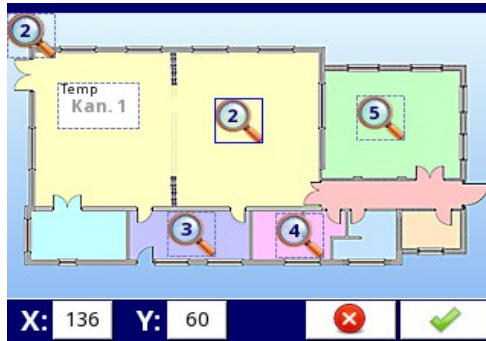

Fig. 7.146. Example of the screen view during configuring **SCADALite** display mode
- **Set position** – this button refers to a simulated view of a group that shows the selected background and positions of all the active slots and links. The position of the link can be selected by touching the screen in the right place - the indicated point will be the top left corner of the link indicator. The point coordinates can also be entered in the lower left corner of the screen. For example, the screen view of **MultiCon CMC-99/141** when configuring **SCADALite** display mode is presented in **Fig. 7.146**.